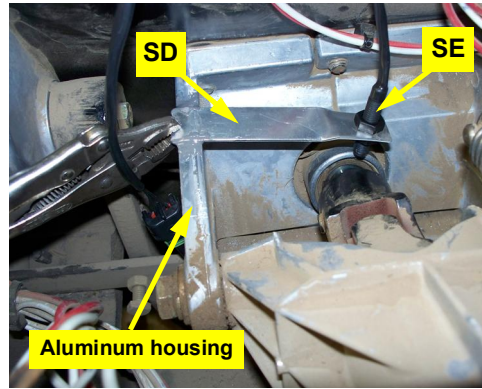

Figure 1e: Installed mounting bracket and sensor
- e. Assemble the aluminum mounting bracket **SD** and sensor **SE** (Figure 1e).
Using a generous amount of epoxy **SC** attach the assembled mounting arm and sensor to the top face of the steering housing. Align the mounting bracket and sensor with the magnets on the steering shaft. Hold the mounting bracket in place with locking pliers. Adjust the sensor face to 1/8" to 1/4" from the magnet (Figure 1e).